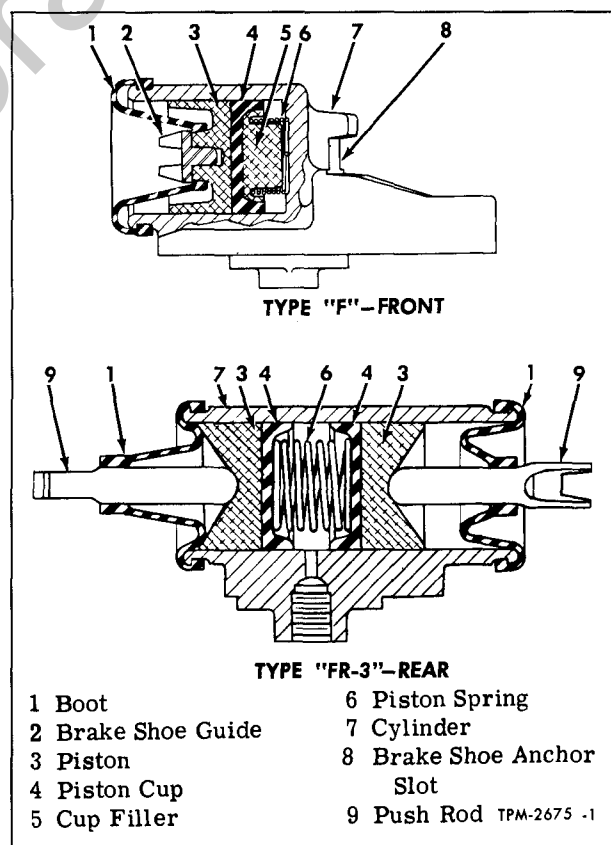

Figure 10—Wheel Cylinders
All models covered by this manual have type "F" front brakes and type "FR-3" or "FR-3A" rear brakes. Except for size of cylinder bore and diameter of internal parts all front wheel cylinders are the same and all rear wheel cylinders are the same. See figure 10 for cross-section illustration of both.
2. Assemble push rods and boots, then install on cylinder. Seat boots evenly in cylinder grooves. Align push rod slots as shown in figure 10.